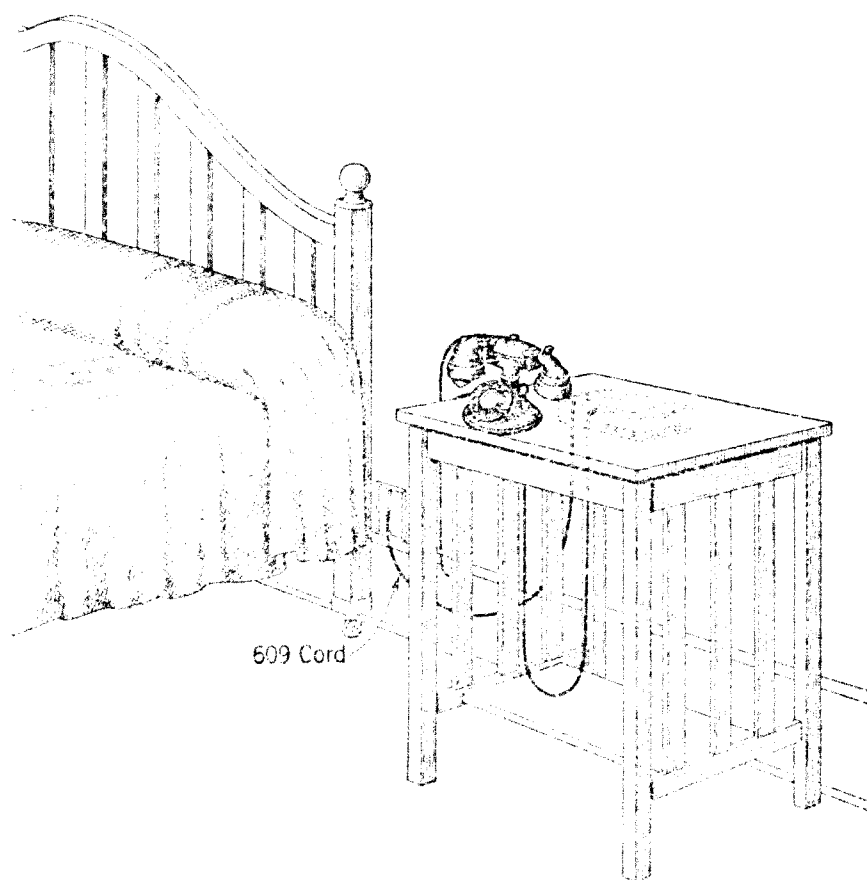

Fig. 5.
3.11 In large modern hotels equipped with a conduit system of wire distribution, it is generally the practice to furnish suitable tables for the telephones in bedrooms. If no bell-box cabinet is provided, the subscriber sets are mounted on the underside of such tables. This requires the placing of a cord from connecting block in outlet box to subscriber set as shown in Fig. 5.